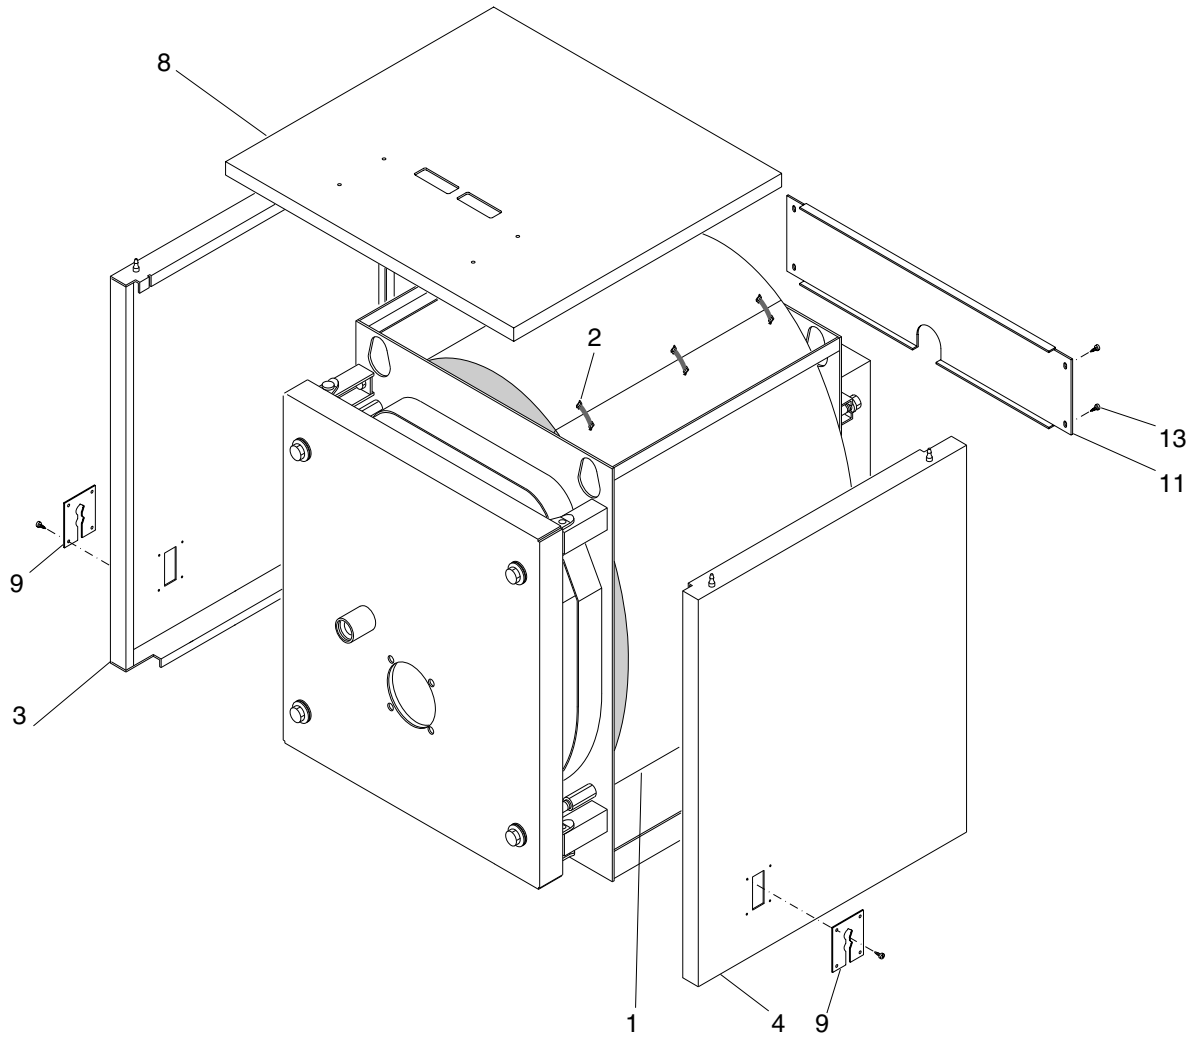

fig. 18
N.B. For the models TX NN 65 to TX NN 85 (ref. fig. 18 & 19), the casing and the insulation are contained in one carton stamped:	50085 (casing for TX NN 65) 50086 (casing for TX NN 85)
**Refer to diagram on fig. 18 & 19 for details:**